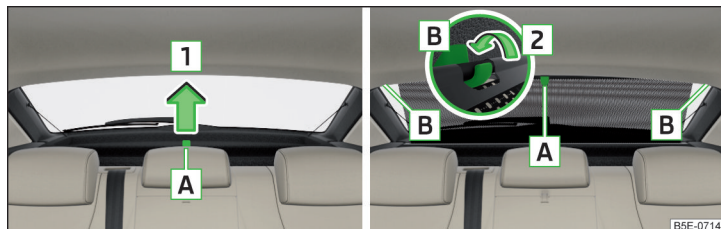

Fig. 59 Sun screen
- To **roll down**, pull the sunshade by the handle **A** in direction of arrow **1** and suspend in the magnetic holder **B** in the direction of arrow **2** » Fig. 59.
- To **roll up**, pull the sunshade by the handle **A** out of the holder **B** against the direction of arrow **2** » Fig. 59. Hold the sunshade so that this can slowly roll back in without damaging.